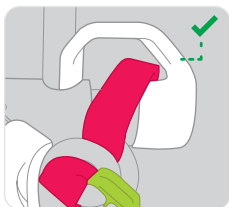

Figure 8
- Ensure that the release cord guide is undamaged (Figure 8).